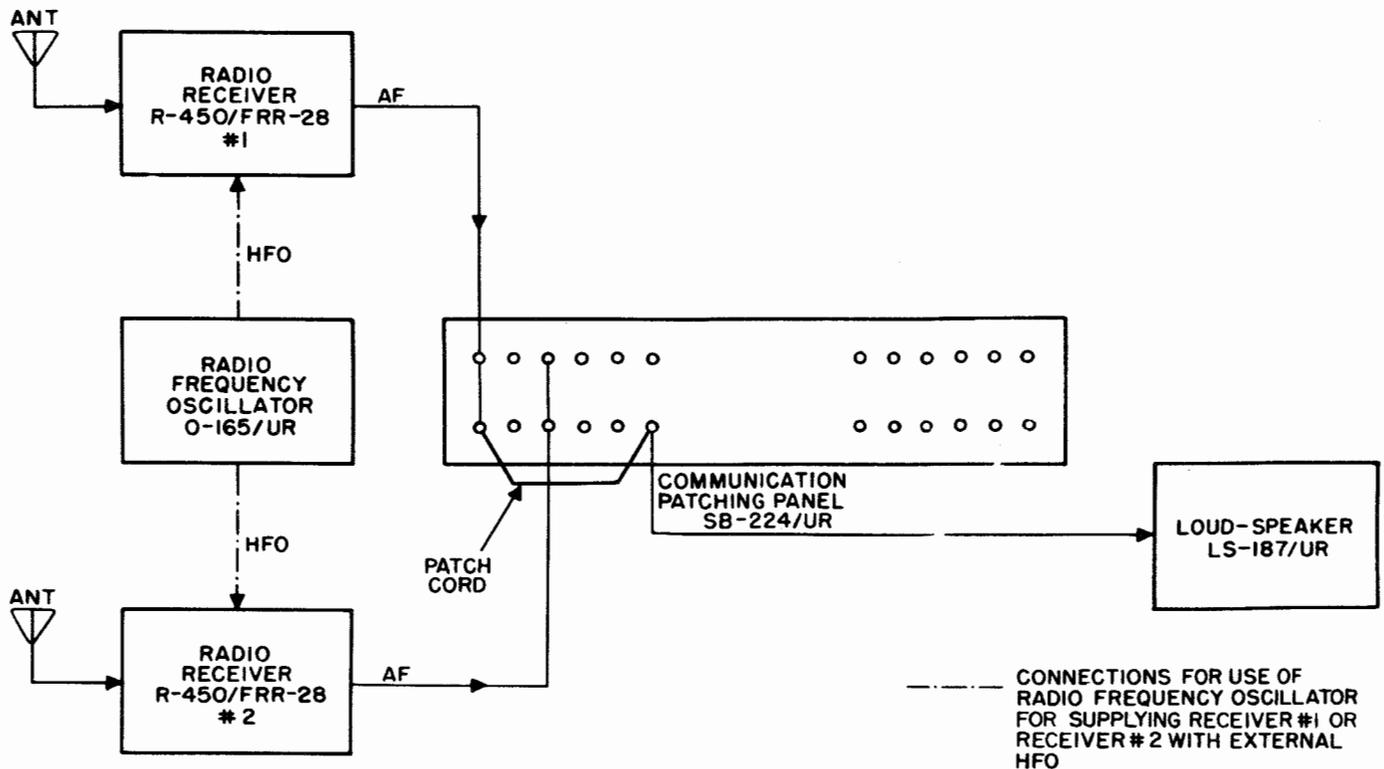

Figure 2-1. Radio Receiving Set AN/FRR-28, Block Diagram, Individual Reception of Phone Signals
*a. INDIVIDUAL RECEPTION OF AM RADIOPHONE SIGNALS.* (See figure 2-1.)—The AM radiophone signal from the antenna is preselected, amplified, and converted to an audio signal in one of the receivers. The audio output of either receiver is fed through Communication Patching Panel SB-224/UR and a patch cord to the speaker. The HFO section of RF Oscillator O-165/UR is used when the receiver HFO is inoperative, or when greater receiver stability is desired.